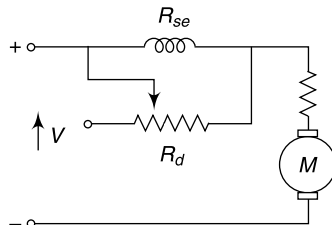

Fig. 9.30 Speed control of dc series motor by using diverter in the field circuit
- (a) A variable resistance R_d is connected in parallel with the series field winding as shown in Fig. 9.30. The parallel resistor is called the *diverter*. A portion of the main current is diverted through R_d , thus the diverter reduces the current flowing through the field winding. This reduces the flux and increases the speed.